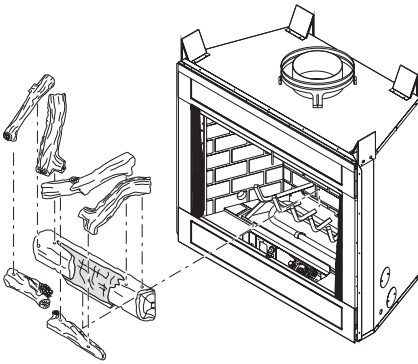

Figure 3 - Removing Log Set
- Remove logs. Carefully lift top logs straight up until pins are clear of lower logs (see Figure 3). Continue removing logs one at a time. The rear log is very heavy and should be lifted with both hands. Place logs away from your work area. Be careful not to damage logs.